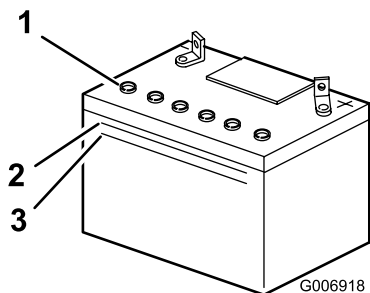

Figure 36
- Look at the side of the battery. The electrolyte must be up to the upper line (Figure 36).
Note: do not allow the electrolyte to fall below the lower line (Figure 36).
- Remove the filler caps (Figure 36).
- Slowly pour distilled water into each battery cell until the level is up to the lower part of the tube (Figure 36).